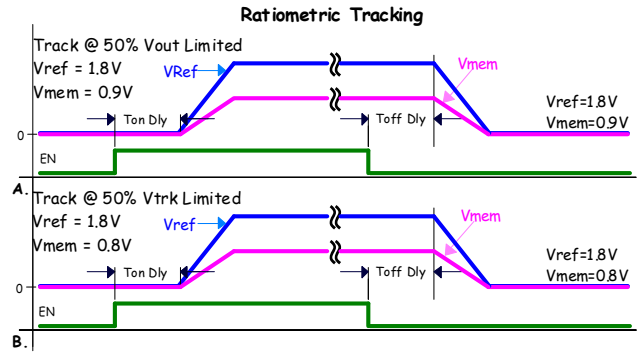

FIGURE 21. RATIO-METRIC TRACKING
- a. Track at 50% VOUT limited. Member rail tracks the reference rail and stops when the member reaches 50% of the target voltage, Figure 21 (A).
- b. Track at 50% VTRK limited. Member rail tracks the reference at the instantaneous voltage value applied to the VTRK pin until the member rail reaches 50% of the reference rail voltage, or if the member is configured to less than 50% of the reference the member will achieve its configured target, Figure 21 (B).
| Tracking Configuration Figure 21 (A) |                  |                  |                   |                   |                    |                        |
| Tracking Configuration Figure 21 (B) |                  |                  |                   |                   |                    |                        |